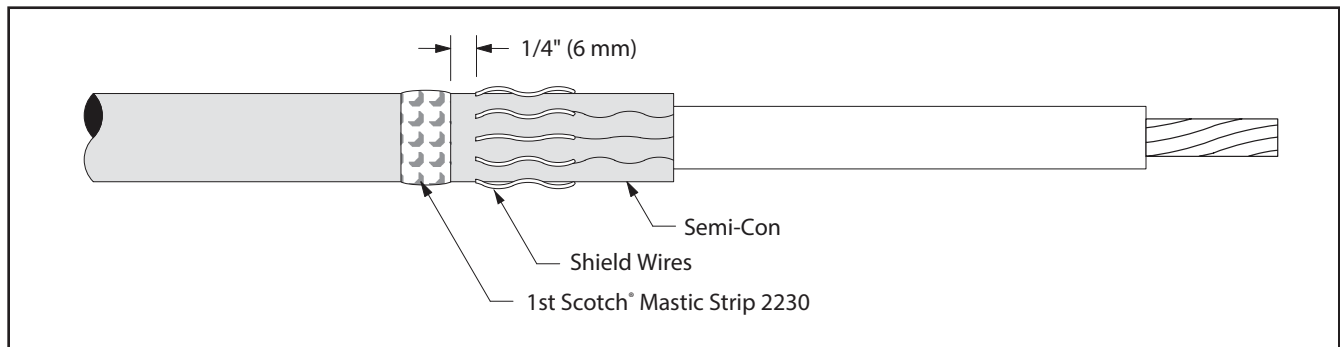

Figure 18
13.1 Select a Scotch® Mastic Strip 2230 from kit and remove white release liners. Using light tension, apply a **SINGLE WRAP** of mastic around the cable semi-conductive jacket 1/4" (6 mm) from shield wires (*Figure 18*). Cut off excess.